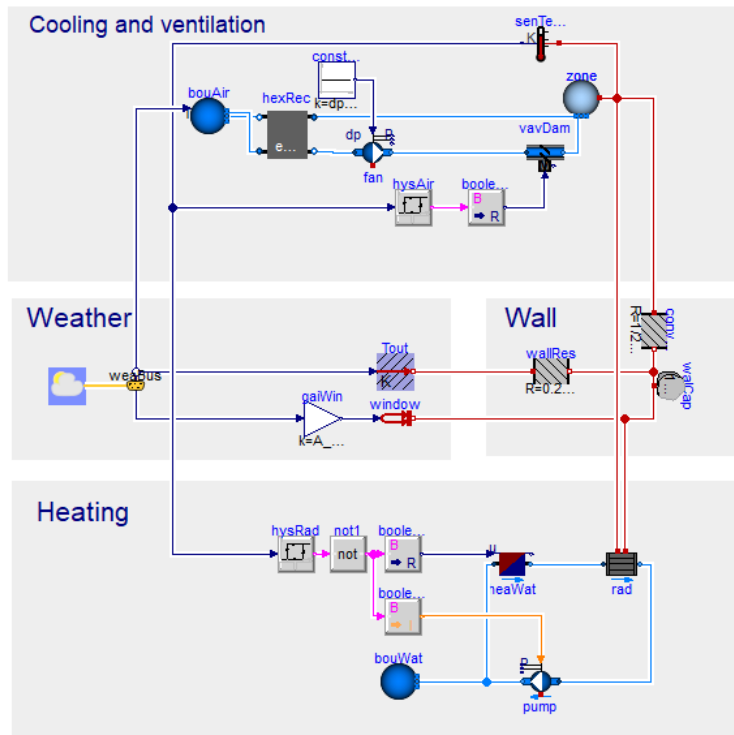

Figure 9: Simple house model with free cooling model.
**Connection instructions** Connect the components such that they exchange mass (and therefore also energy) with the `MixingVolume` representing the zone air. Add a `boundary_pT` to draw air from the environment. Enable its temperature input and connect it to the `TDryBul` variable in the weather data reader. The final model will look like Figure 9.